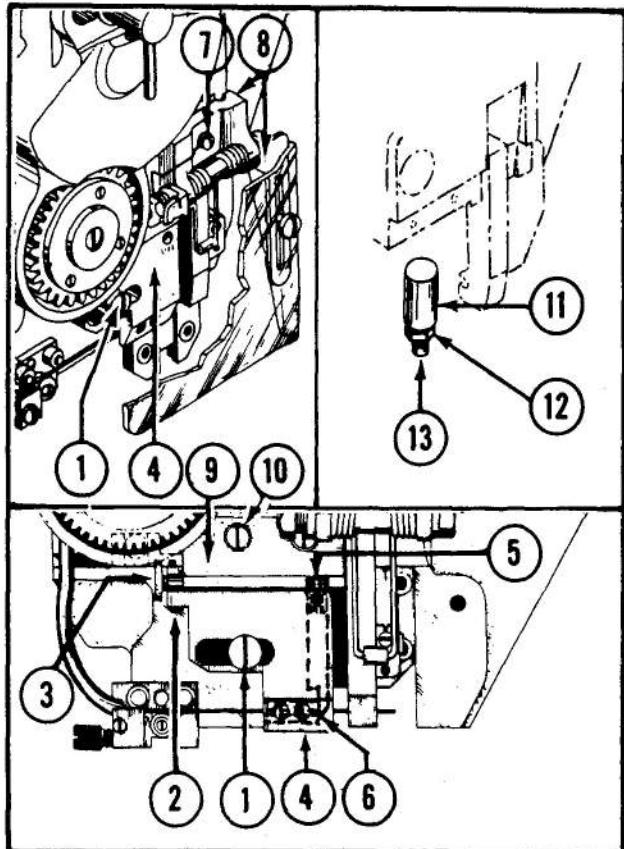

Figure 12—Staple Left Leg and Movable Cutter Adjustments
4. HOW TO ADJUST LENGTH OF STAPLE LEFT LEG (See Fig. 12)
(See Fig. 12)